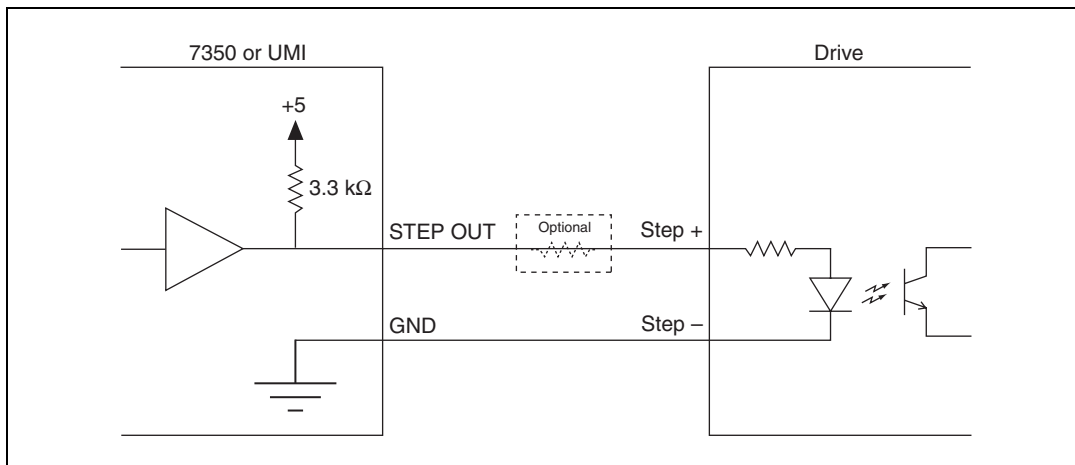

Figure 5-5. Typical Optocoupler Wiring (Totem Pole Output Mode)
Many motor drive manufacturers offer opto-isolated inputs for Step (CW)/Dir (CCW) and other motion control signals. The NI 7350 is well-suited to drive most of these inputs directly when you connect the controller output signal to the positive side of the optocoupler input and connect the controller GND to the negative side of the optocoupler input. This method works if the optocoupler is designed to work with a 5 V signal, requires less than 16 mA, and the NI 7350 output is configured for Totem Pole output mode. Figure 5-5 shows a typical optocoupler wiring example.